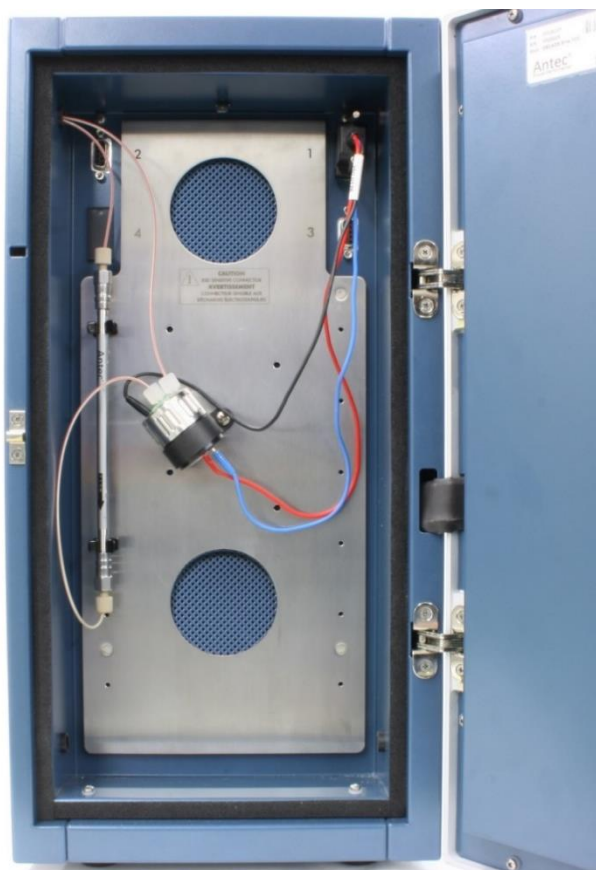

Fig. 4. Installation of flow cell and column in the DECADE (E)lite.
1. The installation of the flow cell and column is shown in Fig. 4.
3. An electrically actuated valve of Vici Valco (type E2CA, EHCA) can be connected & controlled by the DECADE (E)lite. For that purpose a serial valve cable is required. The serial cable should be connected to the VALVE connector on the rear panel of the instrument to enable INJECT/LOAD functions. This presence of this valve is automatically detected and no further configuration has to be performed.